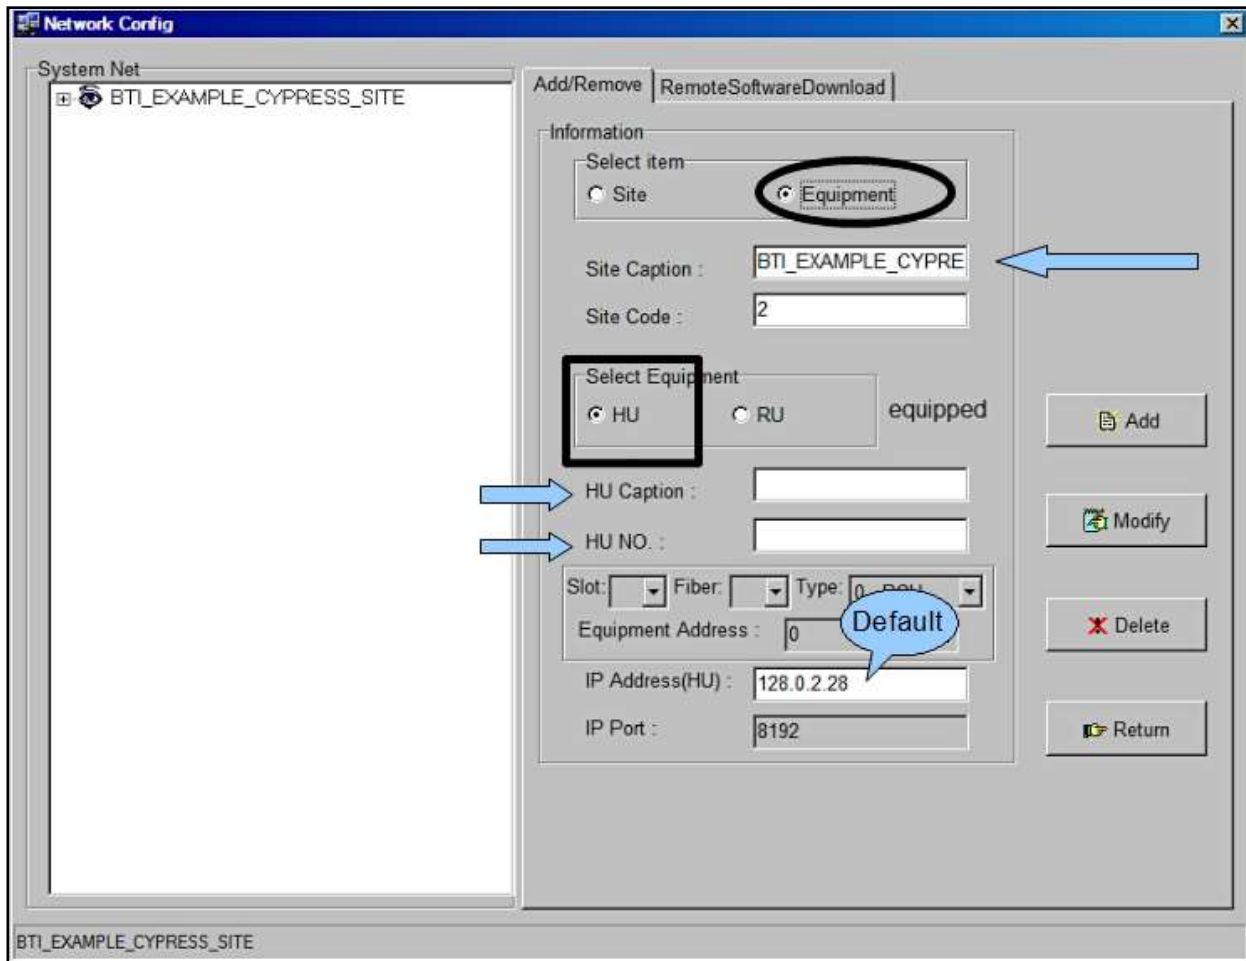

Figure 5-9. Adding a Host Unit
3. Add the customer designated *HU Caption* and *HU No.* as shown in **Figure 5-9**.